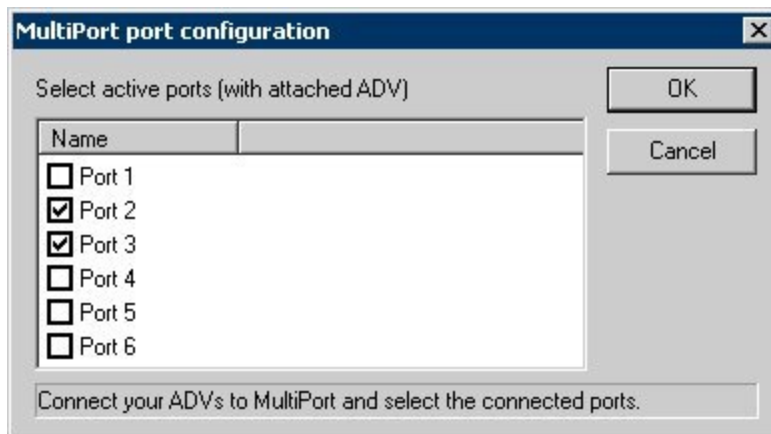

Figure 52. HorizonADV MultiPort Port Configuration Dialog Box
- In the **MultiPort port configuration** dialog box (Figure 52), select the MultiPort ports that are connected to ADVs, and then click **OK** to save the configuration. Note that there may not be a correlation between the **Port** number and the **Probe** number in the *HorizonADV* displays.